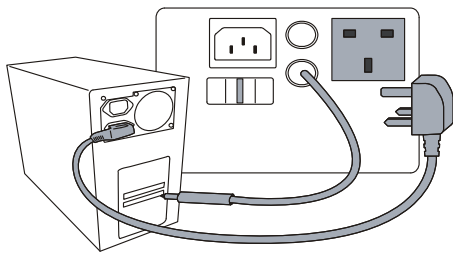

Figure 7. Touch Current Connections
-  1 Connect the appliance and the test probe as indicated on the tester, see also Figure 7.